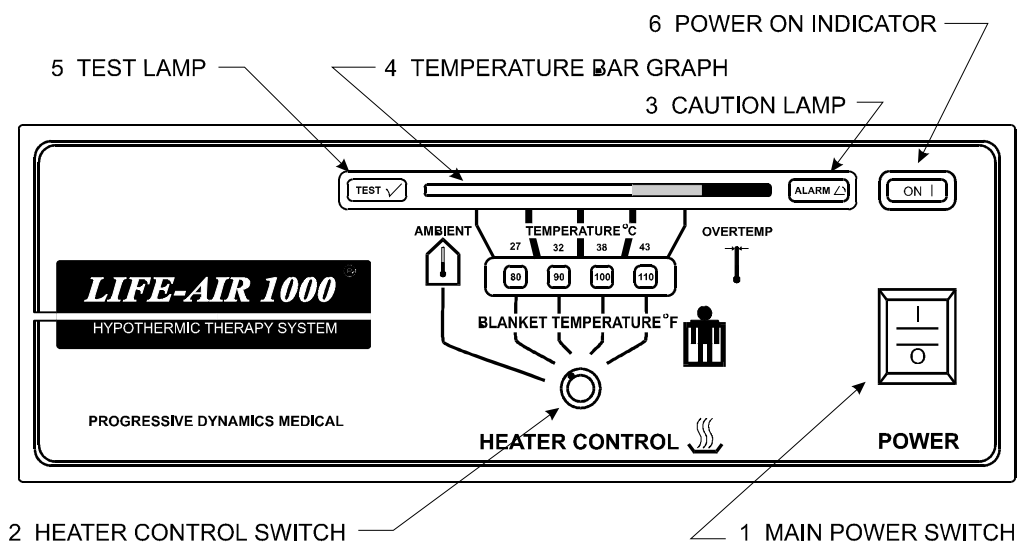

Fig. 1-1
9. Turn the Heater Control Switch (see Fig. 1-1) to the proper temperature setting for the patient. If you wish to mildly cool the patient, place the Heater Control Switch in the 27° or 32° Celsius (80° or 90° Fahrenheit) position.